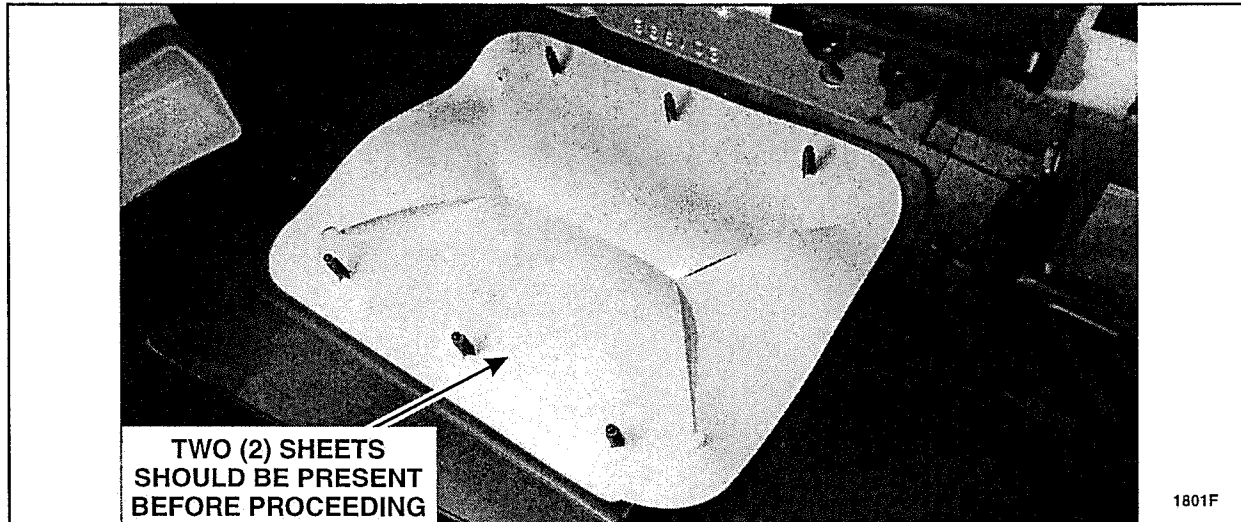

FIGURE 7
7. If no damage is found, clear both sheets of any dirt or debris and install both sheets on the airbag mounting bracket studs. See Figure 7.